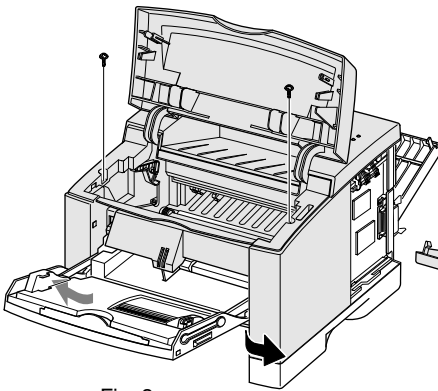

Fig. 3
7. Open the top cover and remove the two screws securing the Main Cover (Fig 3).